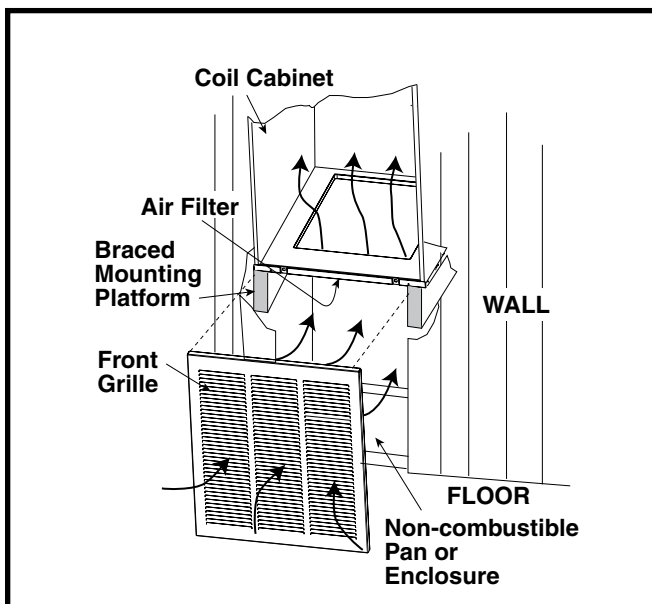

Figure 12. Over-the-Floor Return Air System
1. If floor underneath furnace is made of combustible material, locate a pan fabricated of non-combustible material with 1" upturned flanges under furnace return air opening. See Figure 12 \(page 9\).
7. Install return air grille in closet preferably at same level as upflow stand or below mounting platform. See Figure 12.